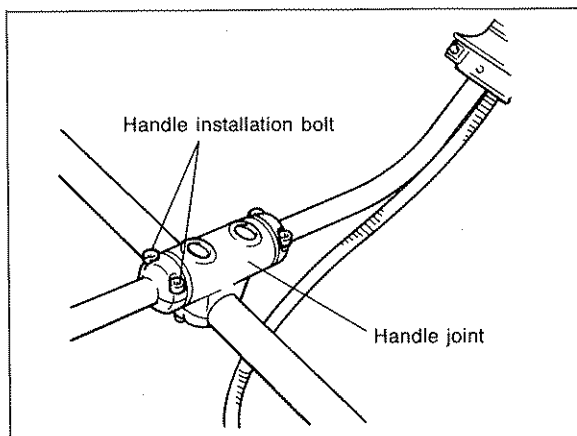

Fig. 10
For machines with anti-vibration U-handle (Fig. 10)
2. Install the handle joint on the handle as shown in Fig. 10. Insert the installation bolt M6x45 through the holes in the handle. Semitighten the installation bolt M6x45.